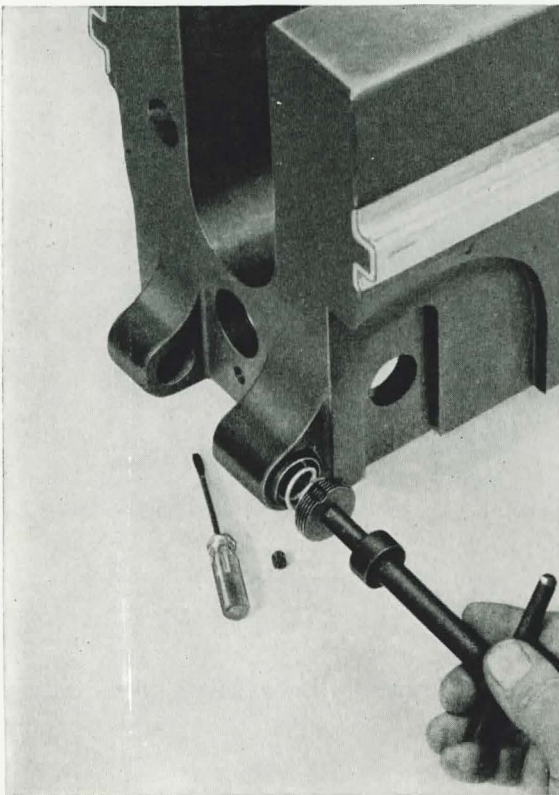

Figure 71
- (1) Remove the locking screw and unscrew the spring seat, using wrench (298869-6), **Figure 71**.
- (2) Remove the spring and the sleeve.